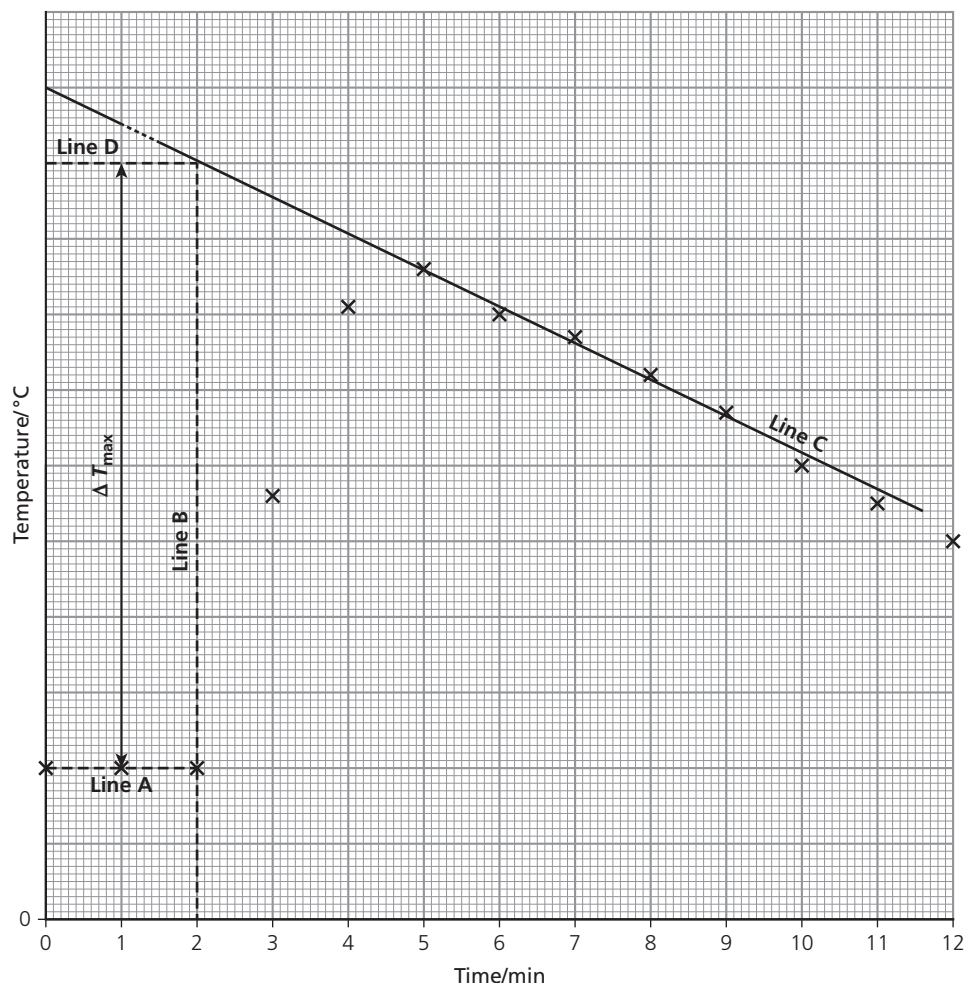

Figure 2
You will notice, from the shape of your graph, that the maximum recorded temperature does not occur exactly when the iron filings have been added to the copper(II) sulfate. To work out the maximum temperature rise that would have occurred if the reaction occurred instantaneously, follow Figure 2.
- 2 Use a ruler to draw lines, A, B, C and D on your own graph, as shown in Figure 2.
- 3 The theoretical maximum temperature change which could have occurred, had all the copper(II) sulfate reacted with the iron when it was added, is shown as  $\Delta T_{\max}$  on the diagram. Determine what  $\Delta T_{\max}$  would have been for your results.